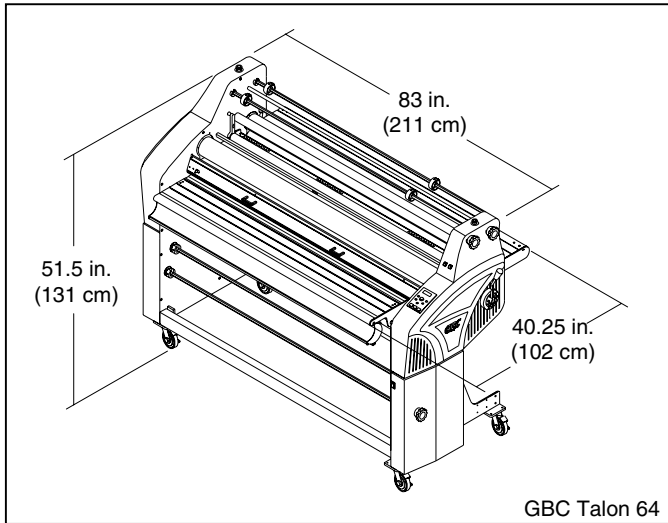

Fig. 2
**Dimensions (W x D x H):****Unit alone: (Figure 2)**